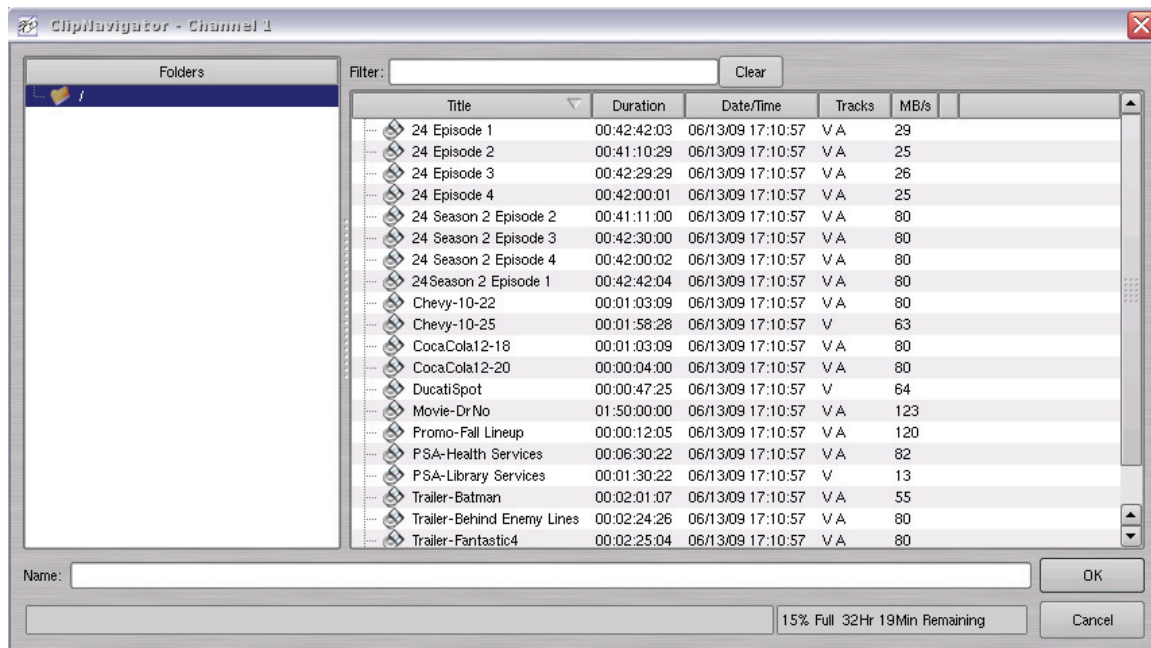

Figure 11 - Channel 1 Clip Navigator "New" mode
- From the Channel 1 Transport Window, Select **FILE > NEW**. The dialog of **Figure 11** appears.